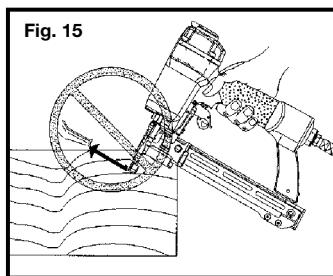

Fig. 15
23. Fire fasteners into work surface only: never into materials too hard to penetrate. Fig. 15.
25. Do not drive fasteners on top of other fasteners, or with the tool at too steep an angle: the fasteners can ricochet causing personal injury. Fig. 15.